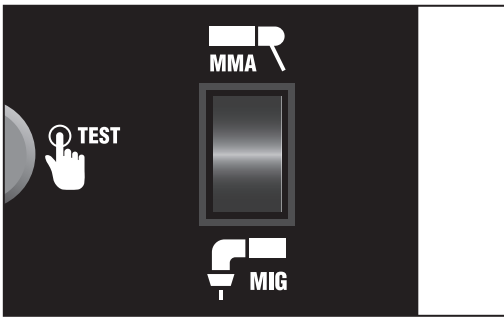

FIG. 6
8.1 WELDING TYPE SELECTION-SWITCH – FIG.6